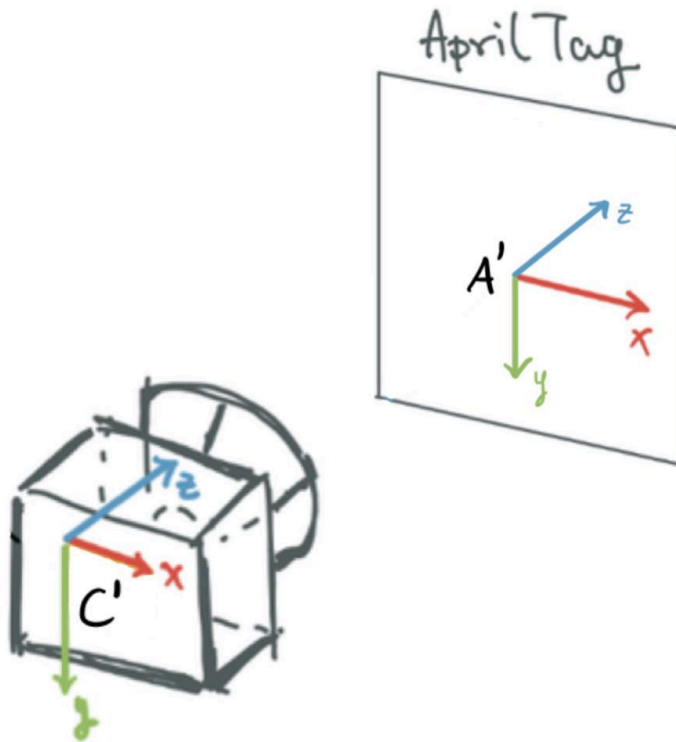

Figure 4.4. Frame convention used by Apriltag library when returning pose.
- To use the Apriltag detector, consult this link. You can extract the pose of the Apriltag in the camera frame with `tag.pose_R` (rotation matrix) and `tag.pose_t` (translation vector). Keep in mind that the coordinate frame convention (see Figure 4.4) is different than the one you are supposed to use in the deliverable!